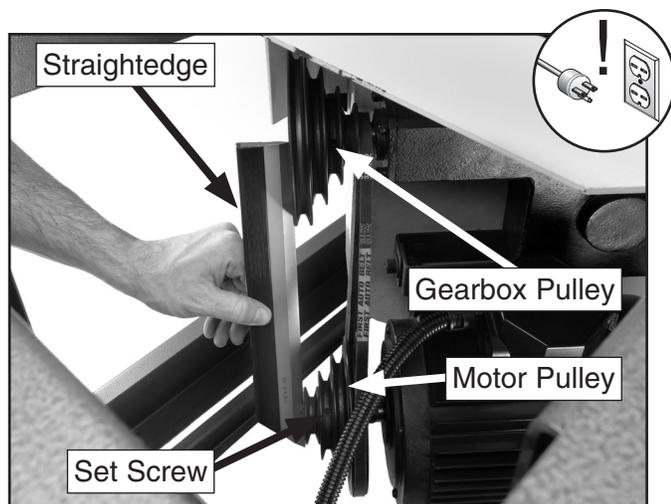

Figure 52. Checking pulley alignment.
2. Remove the right side base cover and use a straightedge across both pulleys, as shown in **Figure 52**, to check the pulley alignment.